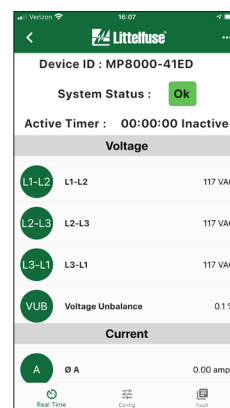

Figure 7
3. Viewing real-time information on the MP8000 (See Figure 7):